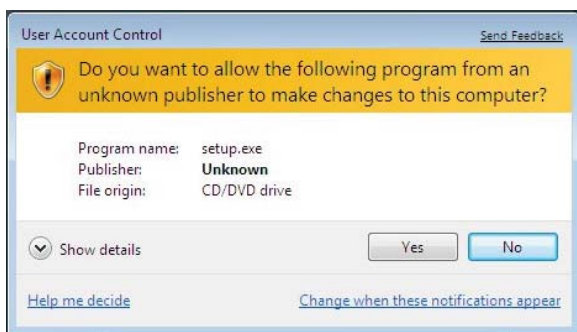

Figure 6. **User Account Control, Permission Dialog Box**
3. A dialogue box appears asking for permission to allow the program to make changes to the PC (see Figure 6). Click **Yes**.